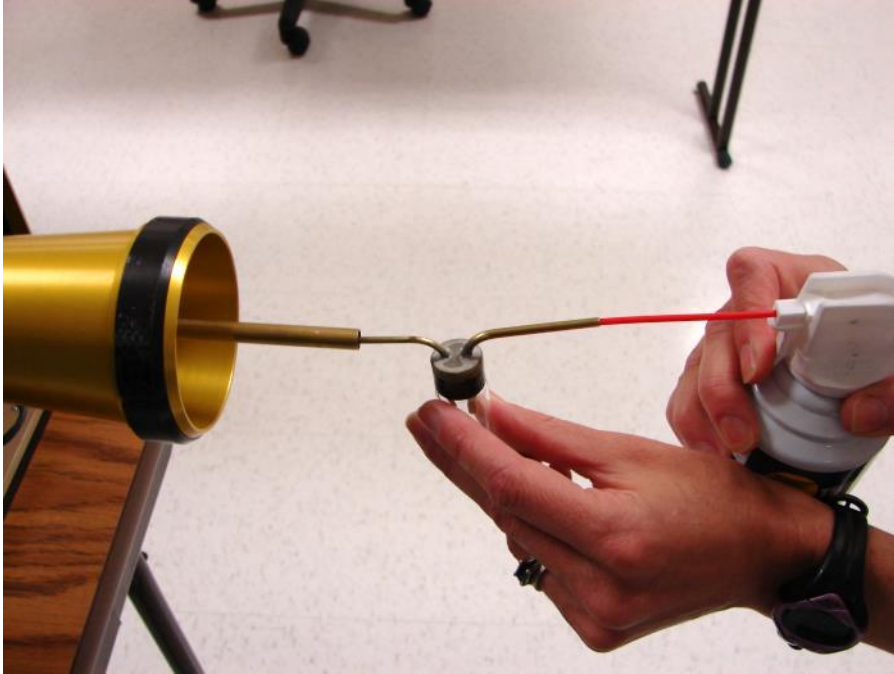
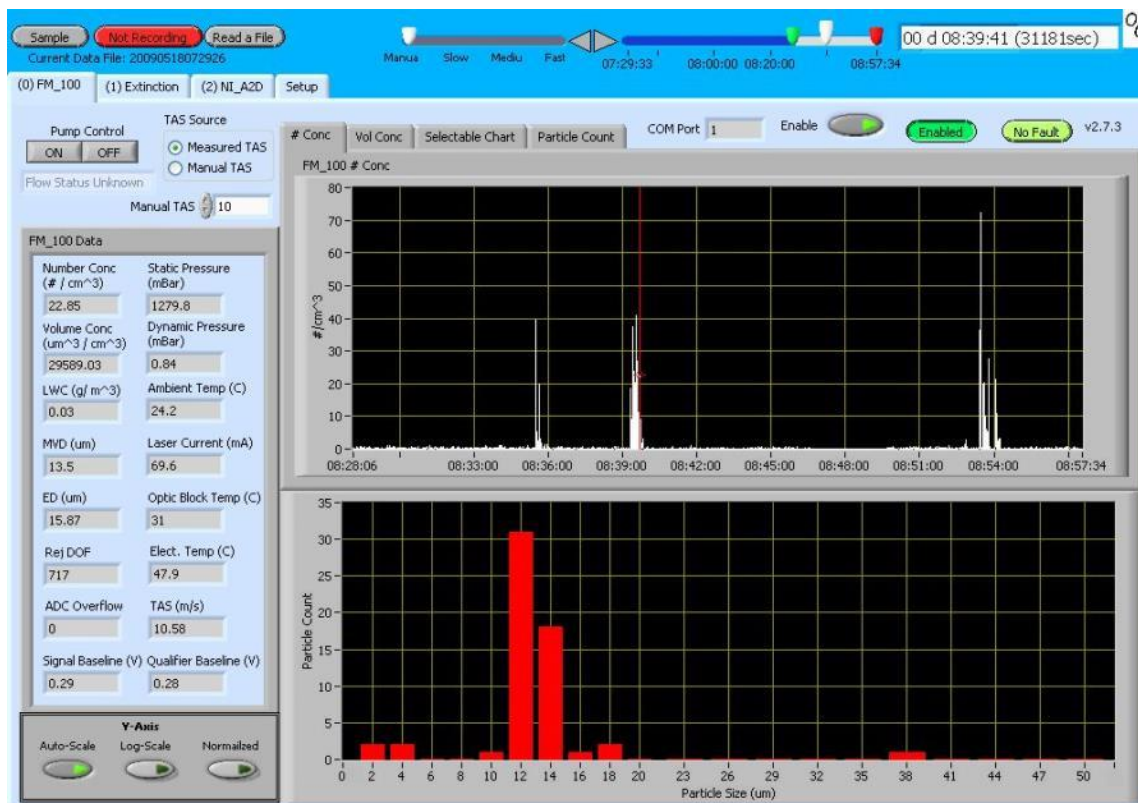

Figure 30: Blowing Glass Beads through the Calibration Device
Figure 31: PADS Display of Calibration Test Results. Note the definite peak in the 14 μm range for 17 μm glass beads.
- 8.) Connect the tube on the calibration fixture's far end to the dispenser and connect the dispenser to the duster. (See Figure 30.) *Gently* press the duster so glass beads are released into the instrument. A very small amount of pressure on the trigger of the duster will suffice. The calibration should be done in a short burst about 1 second or less. There will be a delay of 1-3 seconds before the data shows on the computer screen. (See Figure 31.) The total number of particle counts, not concentration, should be 30-200. This is summed across all of the bins.
Figure 31 shows the typical calibration response for the FM-120. Note that the total number of particle counts is about 50 particles, which is an acceptable concentration. The nominal size of the glass beads is $17.3 \mu\text{m}$. In consulting Appendix B, the equivalent water size is $14.5 \mu\text{m}$. In Figure 31, there are two predominate peaks, one at $12 \mu\text{m}$ and the other at $14 \mu\text{m}$. The designations are the upper boundaries of bins, so the major peak is $10\text{-}12 \mu\text{m}$ and the other peak is $12\text{-}14 \mu\text{m}$ sizing. While these peaks occur at particle sizes slightly smaller than one might expect, they are acceptable given the $\pm 1.4 \mu\text{m}$ variation in glass bead size and a 12% coefficient of variation.